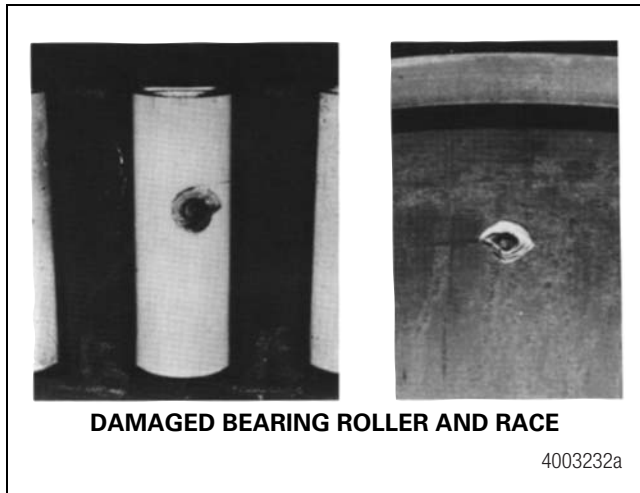

Figure 7.5
- A connection that places a wheel bearing between the ground cable connection and the weld area can damage the bearing by electric arcing as shown below. Figure 7.5.